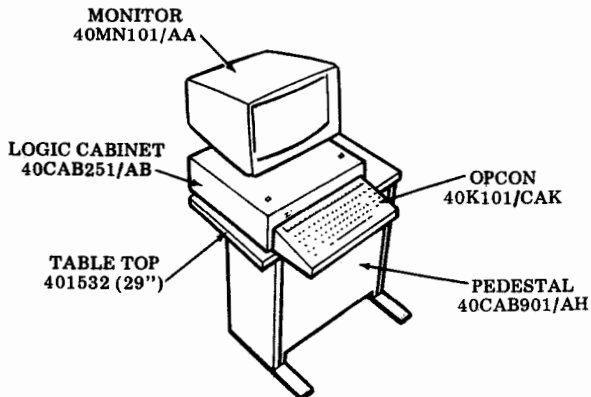

Fig. 4
3.03 Keyboard Display (KD) Set With Pedestal (Fig. 4)